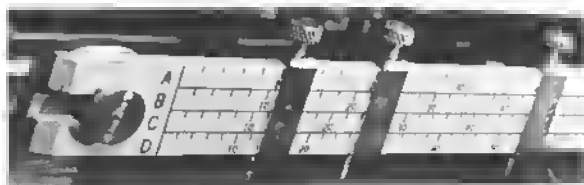
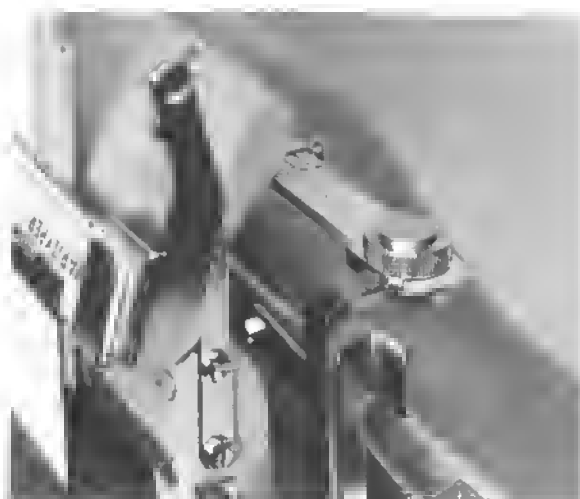

Figure 24
Figure 24a
The removable tabulation scale (Figure 24) is calibrated in units of 6 increments (each calibration is equivalent to 2 plotting units on the horizontal plotting scale (34) at each of the horizontal spacings). This removable tab scale simplifies the setting of tab stops as well as insuring accurate tabulation points. With this added feature, tab stops should be used whenever possible for accurate alignment. The **tabulation scale adjustment knob** (Figure 24a) is located on the right hand tab scale bracket. This knob must be "seated" in 1 of the 2 detent positions. Further explanation of its use on Page 50.